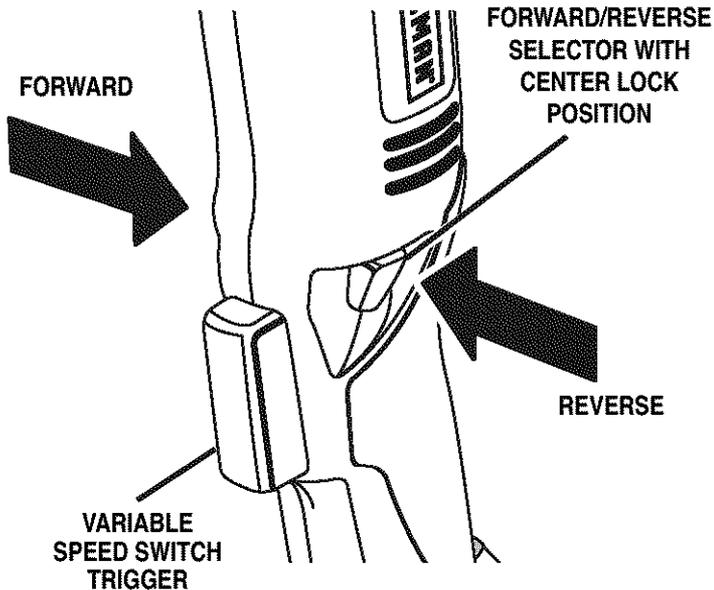

Fig. 2
See Figure 2.
- Lock the switch trigger by placing the direction of rotation selector in center position. See Figure 2.
- Lock the switch trigger on the drill by placing the direction of rotation selector in the center position. See Figure 2.